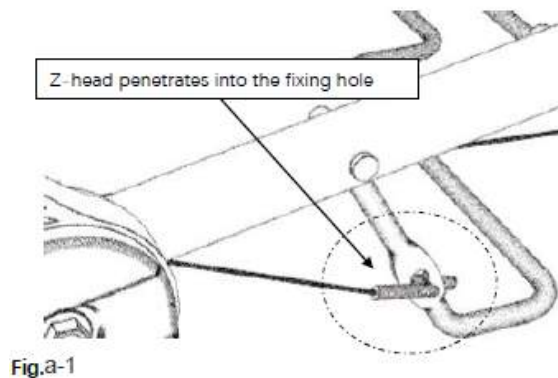

Fig.a-1
1. Insert the cable Z-head into the roller drive lever. (fig a-1)